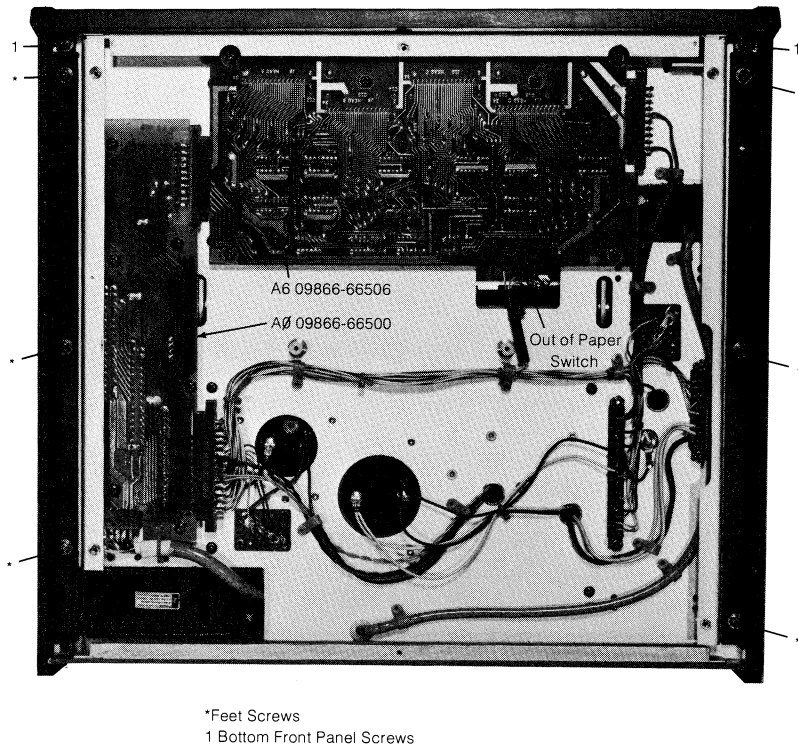

Figure 3-2. Printer Bottom Assemblies
Access to the Row-data Storage (A6) and Motherboard (A0) assemblies can be obtained by placing the instrument on its rear panel and removing the six screws in the bottom cover. Once the bottom cover is removed, the A6 assembly (7 screws) or A0 assembly (6 screws) may be removed following the removal of the associated screws. It may be necessary to loosen the three screws (Figure 3-2) which hold the left, bottom foot to the chassis before the A0 assembly can be removed. If these three screws are loosened, they should not be tightened until the bottom cover is replaced and the 6 screws are tight. (This is necessary to provide proper alignment.)
4. Remove the A3, A4, and A5 PC assemblies. Then, disconnect the connector to the motherboard (A0). See Figure 3-2.